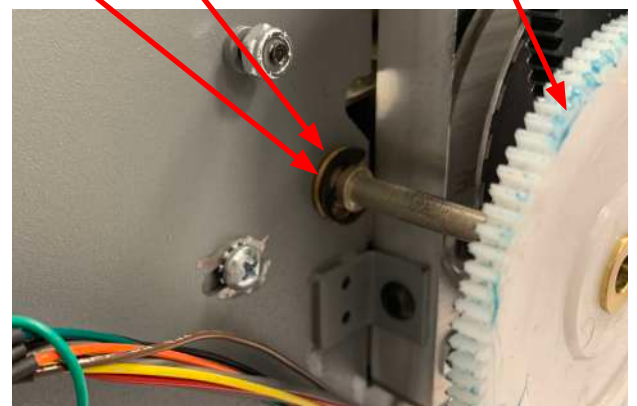

Fig. 50c
5. Remove one "E" clip from the lower stacker (Fig. 50c) shaft and slide the shaft out of the bushings.
10. Remove the "E" clip on the non-operator side of the upper conveyor drive shaft (Fig. 50c).
11. Slide the drive shaft toward the non-operator side and remove the brass bushing from non-operator side of the conveyor drive shaft (Fig. 50c).